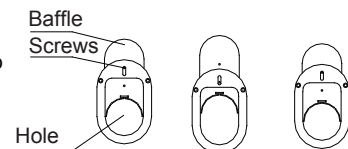

Fig.14
- Please install it after installation of connection pipe and drainage pipe according to Fig.14.